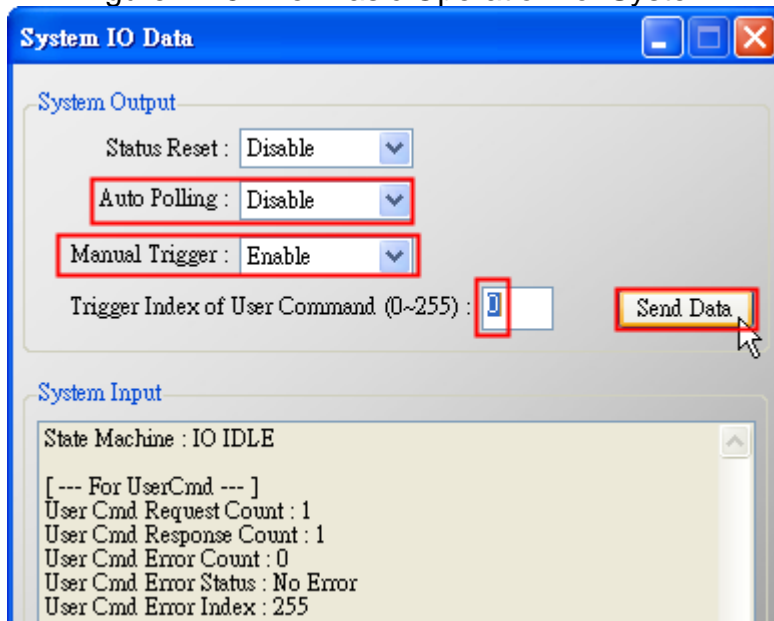

Figure 12-6 The "I/O Data" screen of System
- (4) Right click on the "System" item and choose the "Basic Operation".
- (5) After finish the below settings, click "Send Data" button to send the UserCMD(6) to HART device. (Figure 12-6)
- [3] "Trigger Index of User Command" field => Input "0" (UserCMD(6) Index)